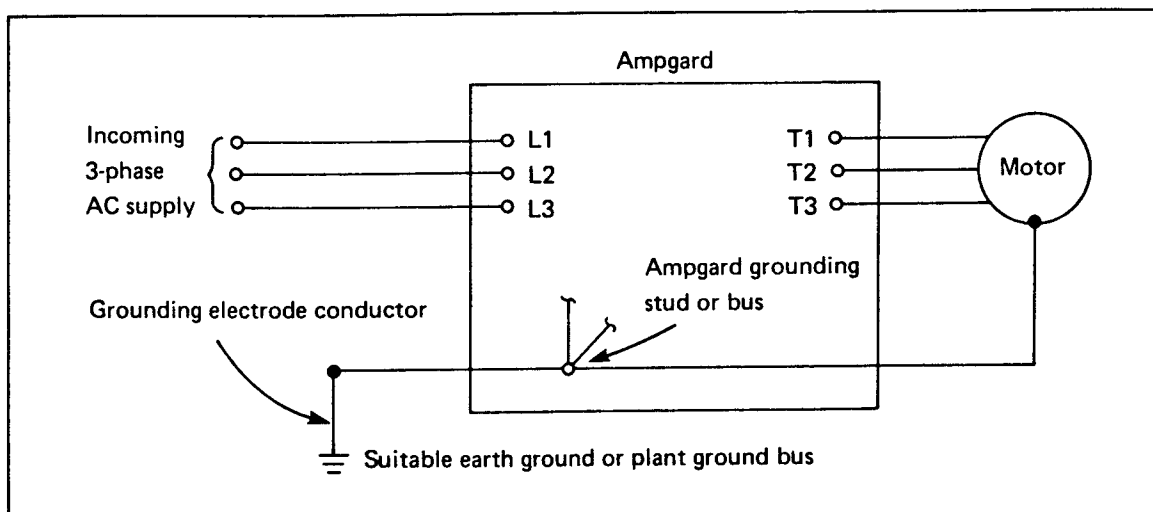

Figure 3.5 – Typical Grounding Plan (simplified)
3.3.3 Grounding — A typical grounding plan for an Ampgard starter is shown in Figure 3.5. Note carefully these